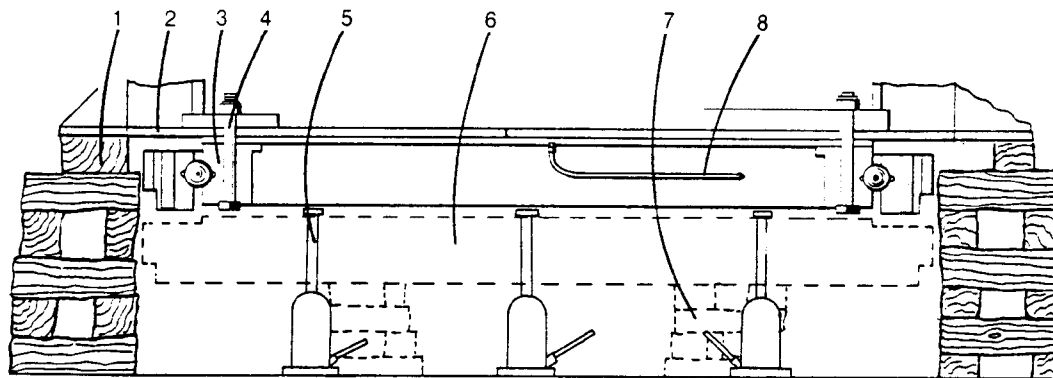

Fig. 3
the machine. Block on main frame, not the deck plates or supports. Use clean, dry, hard wood blocking. Stack in a criss cross manner as shown in Fig. 3.
(c) The front drumshaft, and third drumshaft (if so equipped) must be removed for access to the nuts on capscrews (4 in Fig. 3), which hold bearing to upper. Refer to service manual for removal procedure.
(g) Lower bearing, slowly, onto blocking, item (7) Fig. 3.